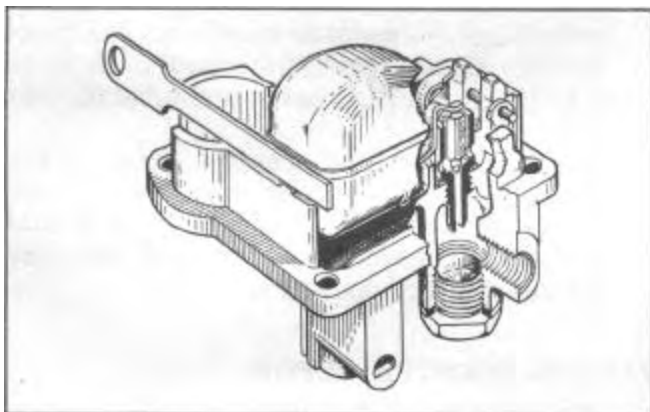
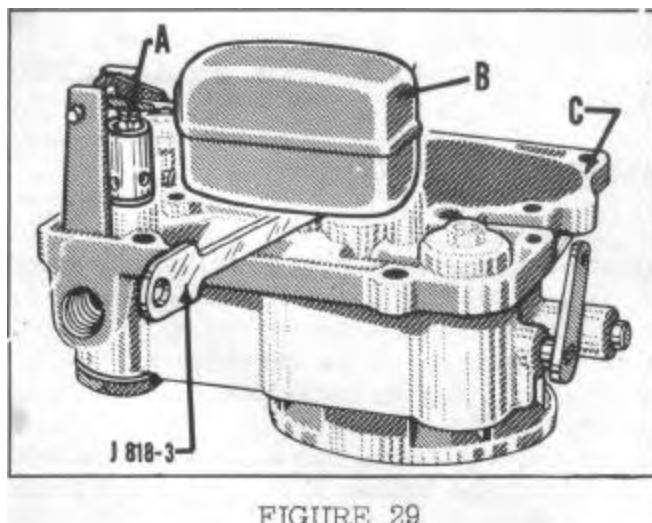

FIGURE 28
FIGURE 29
5. Float setting should be measured as in Figure 28 for Models WA1-749-S, WA1- 968-S and WA1-990-S, Figure 29 for WGD-773-S and WGD-776-S.